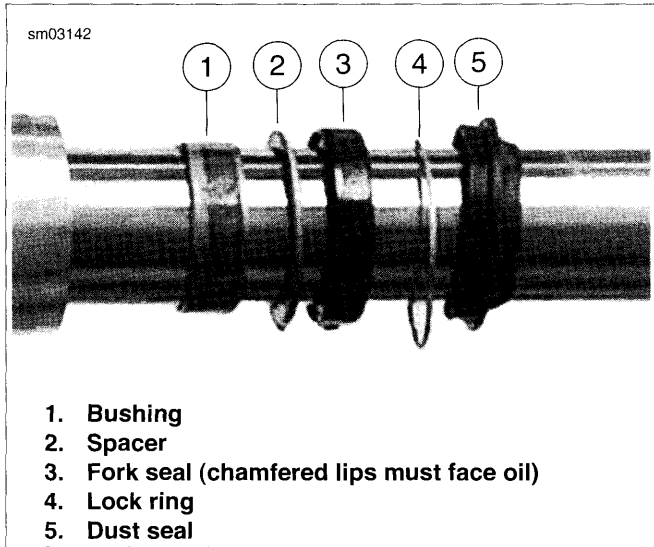

Figure 2-175. Seal Components
2. See Figure 2-175. Install chrome dust cover (not shown) and components onto fork slider in order shown.